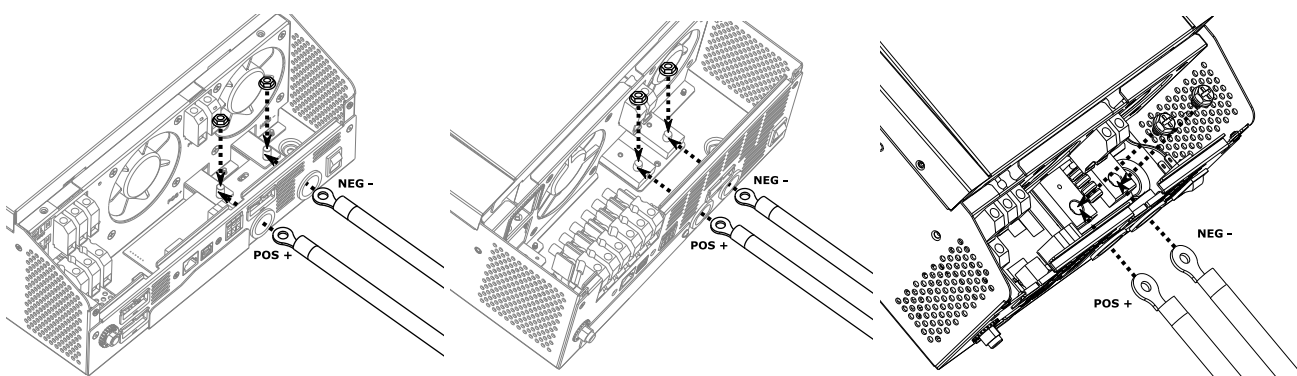

Figure 6: Battery cable connection
8. Insert the ring terminal of the battery cable flatly into the battery connector screws of the inverter, then tighten the nuts / screws with a torque of 2 - 3 Nm (see *Figure 6*). Make sure the polarity at both the battery and the inverter is correct and the ring terminals are tightly screwed to the battery terminals, ensuring a good electrical connection.